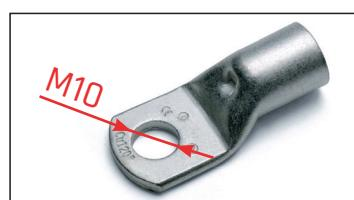

Fig. 22: Bolt size for cable lug
- Move the lever of the switch disconnector to the "OFF" position: see Fig. 22.